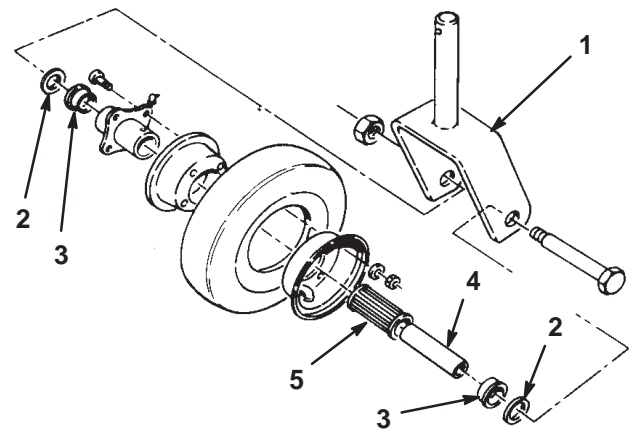

Figure 24
1. Remove the locknut from the capscrow holding the castor wheel assembly between the castor fork (Fig. 24). Grasp the castor wheel and slide the capscrow out of the fork.
2. Tip the wheel to the side and allow the spanner bushing (Fig. 24) to fall out.
3. Remove one bearing retainer from the wheel hub and allow the bearing to fall out. Remove the bearing retainer from the opposite side of the wheel hub (Fig. 24).